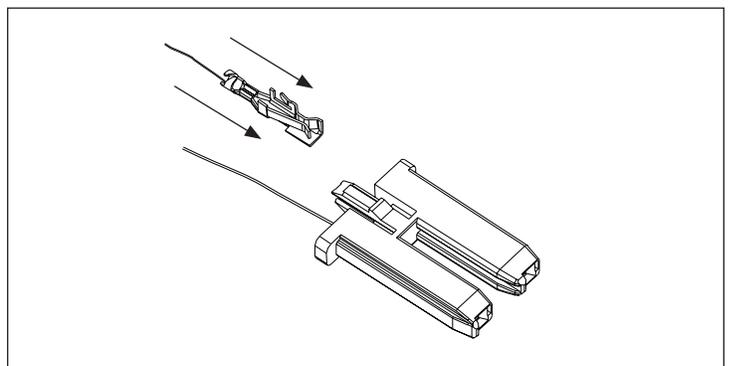

Figure 26. Step 10.
**Note:** If an externally wired latch check switch and a motor operator are installed together, a simple secondary wiring change must be made. Remove the latch check switch's secondary connector plug as described in Section 9. Once removed, disconnect the latch check switch's secondary lead (#39-NF, #51-RF) from the connector plug by inserting the terminal extraction tool (included in the externally wired latch check switch kit) into the end of the connector plug as shown. The tool releases the lead so it can be removed from the other end. The connector plug can be discarded. The latch check switch's disconnected lead (#39-NF, #51-RF) is now reconnected into the open secondary location in the motor operator's connector plug. No tool is required to make this connection. It is, however cautioned that the connector plug must be oriented as shown in Figure 26 before making the connection. Gently push the lead into the connector's open spot, and it will easily connect and lock into place.